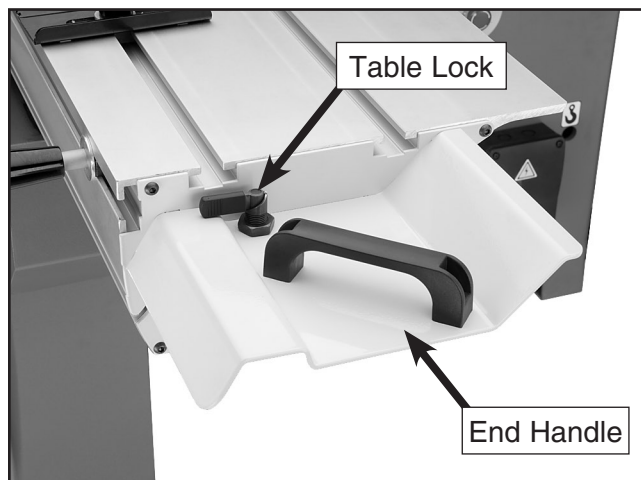

Figure 41. Sliding table end handle.
3. Install the end handle, as shown in **Figure 41**, using the remaining screws removed in Step 1.
4. The sliding table is locked in place when the table lock is in the position shown in **Figure 41**. Rotate the table lock 180° to unlock the sliding table.